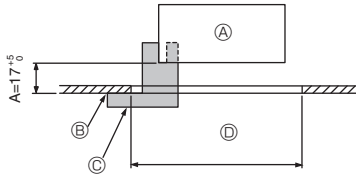
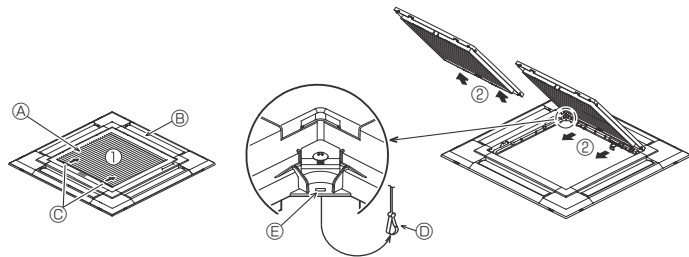
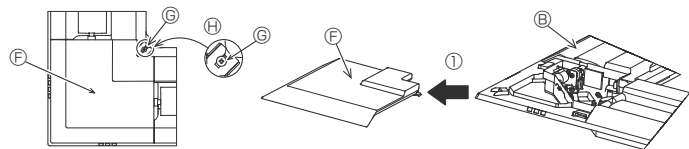

Fig. 9-2
Fig. 9-3
Fig. 9-4
①	Grille	1	950 × 950 (mm)
②	Installation gauge	1	(Divided into 4 parts)
③	Wireless remote controller	1	For PLP-6EALM
④	Remote controller holder	1	Included when equipped with the wireless remote controller.
⑤	LR6 AA batteries	2	Included when equipped with the wireless remote controller.
⑥	3.5 × 16 tapping screws	2	Included when equipped with the wireless remote controller.
9.2. Preparing to attach the grille (Fig. 9-2)
- With the gauge ② supplied with this kit, adjust and check the positioning of the main unit relative to the ceiling surface. If the main unit is not properly positioned relative to the ceiling surface, it may allow air leaks or cause condensation to collect.
- Ⓒ Installation gauge ② (inserted into the main unit)
9.2.1. Removing the intake grille (Fig. 9-3)
- Slide the levers in the direction indicated by the arrows ① to open the intake grille.
- With the intake grille in the "open" position, remove the hinge of the intake grille from the grille as indicated by the arrows ②.
9.2.2. Removing the corner panel (Fig. 9-4)
- Loose the 4 screws on the corner. Slide the corner panel in the direction of the arrow ① in the figure and remove the corner panel.
[Fig. 9-3] [Fig. 9-4]